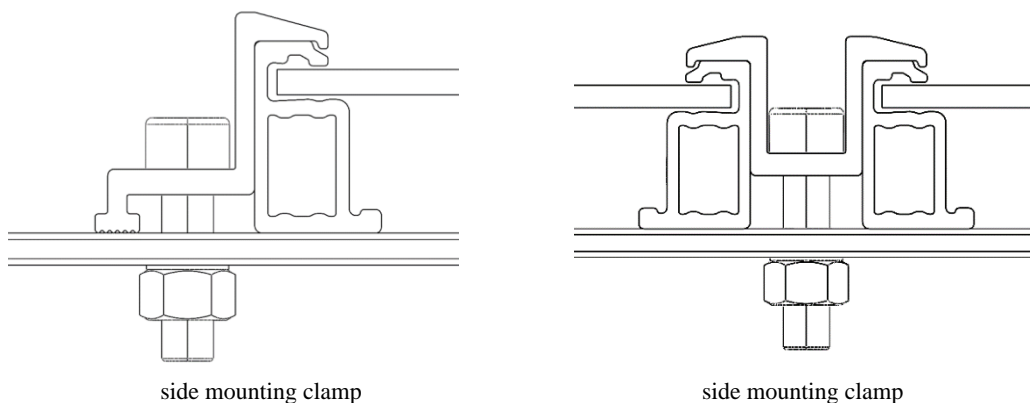

Figure 18 Mounting clamps
- ◇ The installation method of the composite frame Module mounting clamp is the same as that of the aluminum frame Module (Figure 18), but the special clamp of the Compound frame Module is required. Different installation positions of the clamp will affect the maximum load capacity of the Module (Table 5).